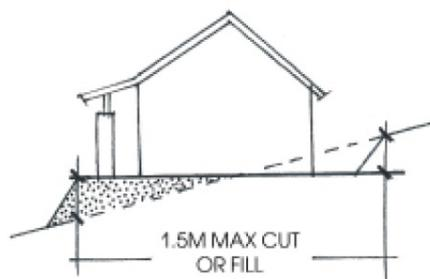

Figure 2: Maximum cut and fill
- The maximum cut or fill allowed on a site is 1.5 metres relative to the existing ground level (see figure 2 sketch below)